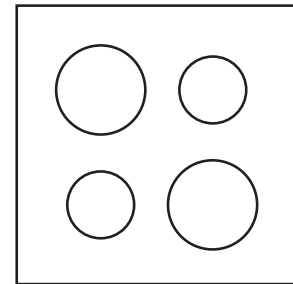

Fig. 18-10
1. Create a new drawing and draw the kitchen range symbol shown in Fig. 18-10. The square is **5** units on each side, the large circles are **R.8**, and the small circles are **R.6**. Locate the circles approximately as shown: equidistant from the adjacent sides, with the large circles in the upper left and lower right corners.